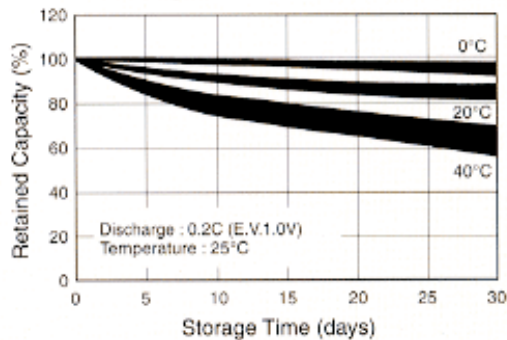

Figure 2-11. NiMH Battery Storage Characteristics
It is normal for NiMH batteries to self-discharge during storage (Figure 2-11) and to degrade to 80% of original capacity after 12 months of continuous use.
- Storing the battery in extreme hot or cold places will reduce the capacity and lifetime of the battery. The battery will discharge faster at higher ambient temperatures (see Figure 2-11).